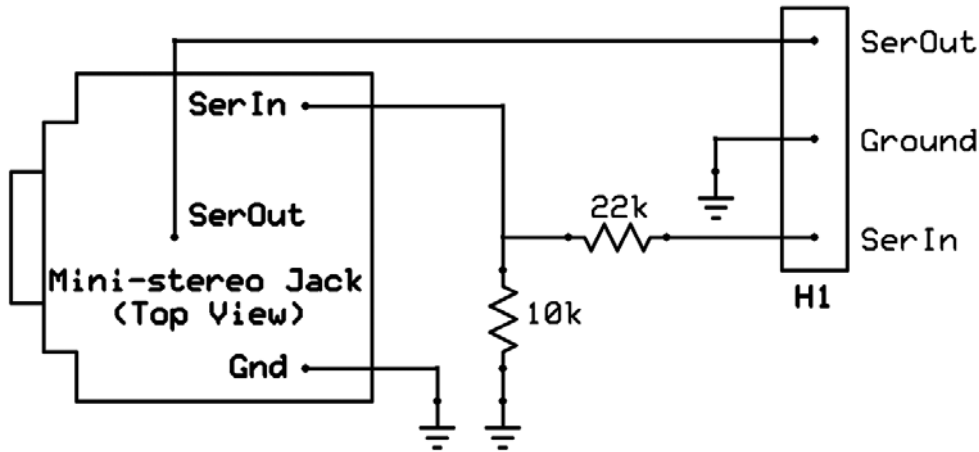
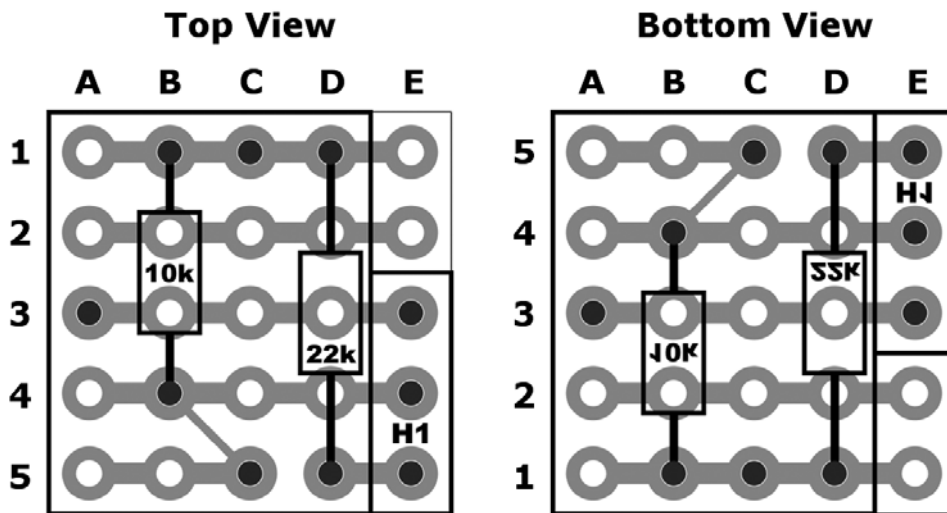

Figure 2-6 USB-PA3 schematic
Figure 2-7 Top and bottom views of USB-PA3 stripboard layout
Figure 2-6 presents the schematic for the USBS-PA3 adapter, and Figure 2-7 is the stripboard layout, which includes column and row labels analogous to those of a standard spreadsheet. I'll use this labeling arrangement in all our stripboard projects to make it easy to refer to specific locations when necessary; for example, “Next install the 22k resistor between holes D1 and D5.” Note that the row labels in Figure 2-7 are reversed for the top and bottom views—this reflects the physical reversal that happens when you flip the board to view the bottom. Of course, there are at least two ways to flip a board (horizontally or vertically). When working on the stripboard, it's important to make sure you always flip the board in the same manner that the layout has been flipped to avoid the possibility of cutting a trace at the wrong spot.
8. Snap off a three-pin section of the reverse-mountable male header and insert it from the top of the board in the position indicated in Figure 2-7. Using the same procedure we employed in Project 1, support the stripboard and header on a breadboard while you solder the header in place.
If you look back at the USBS-PA3 schematic presented in Figure 2-6, you can see that the 10k and 22k resistors in the standard programming circuit tie the serin pin to Ground. However, the USBS-PA3 is specifically designed to be easily movable from one project to another, and there definitely will be times when we will want to be able to run the program in a project that does not have the USBS-PA3 attached. The 100k resistor that ties the serin line to Ground is what enables us to do this. If we didn’t include it and then removed the USBS-PA3, the circuit would function erratically or not at all.